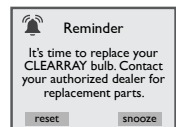

Figure 15.0c
21. **CLEARRAY Replacement Reminder**: This message will appear when the CLEARRAY bulb reminder time has expired (Figure 15.0c). The CLEARRAY bulb must be replaced.